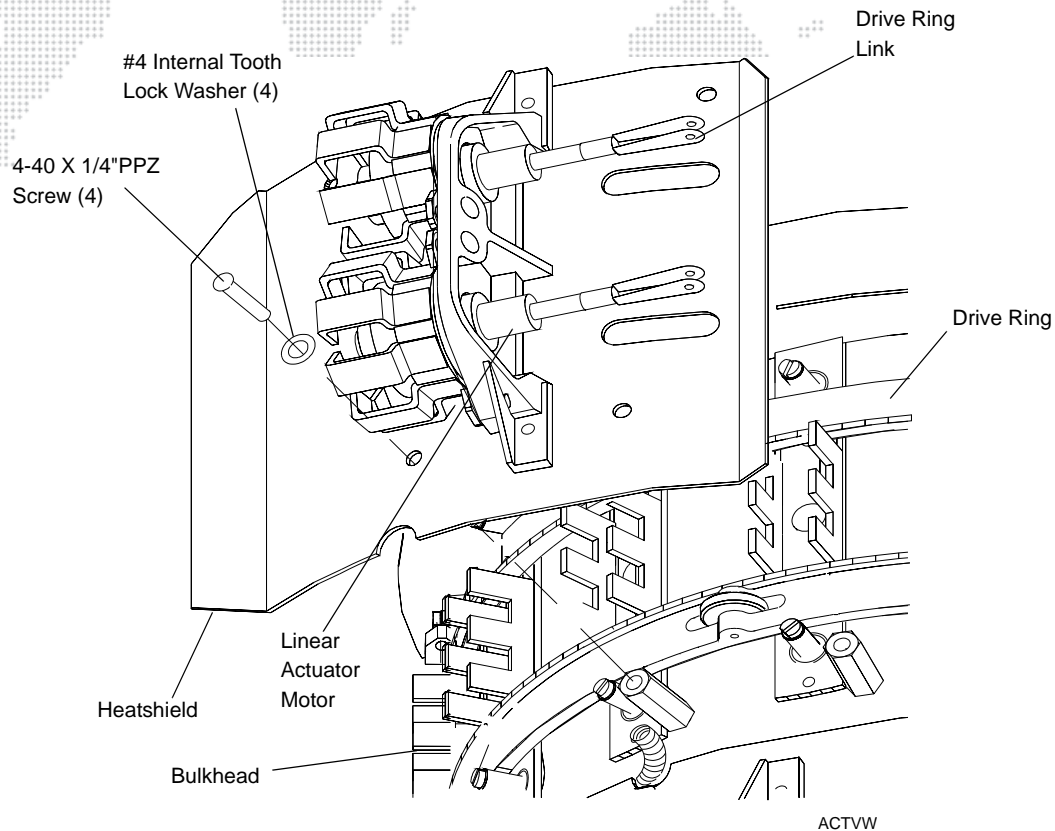

Figure 2-21: Linear Actuator Motor Assembly Replacement
Step 6. At appropriate linear actuator motors, using #2 slotted screwdriver, disconnect actuator/drive ring links from swivel links on drive ring. **Figure 2-21.**